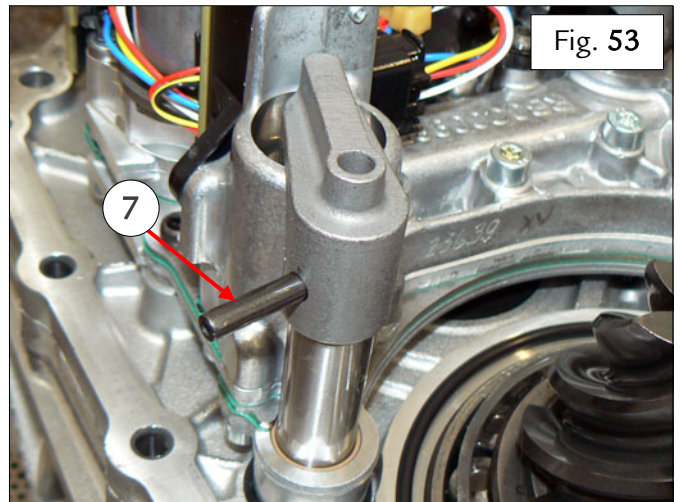

Fig. 53
- Fit the new park lock alignment pin (7) in the relative seat, aligning the actuator bracket correctly with its actuator rod – Fig. 53.